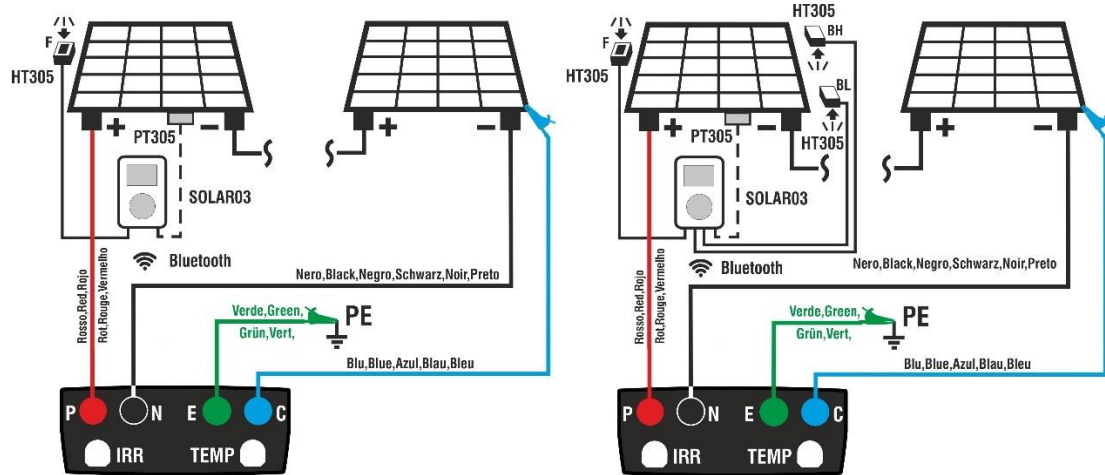

Fig. 13: Connection of SOLAR03 in direct connection on Mono/Bifacial PV modules
3. Connect the instrument to the PV module/string being tested and to the main earth node of the system, and to the metal masses connected to earth as shown in Fig. 13. In detail: